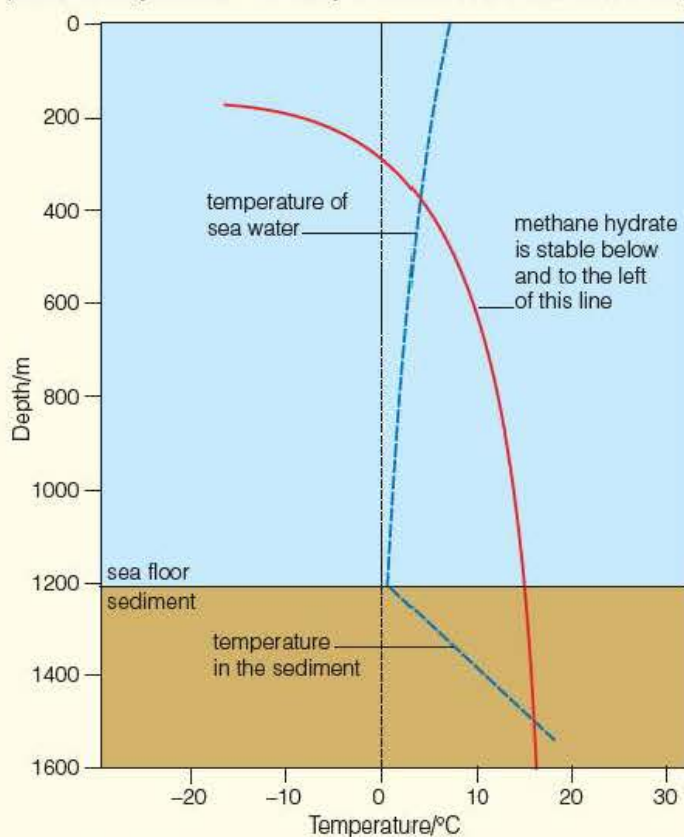

Figure 14.13 ▲
- c) Use le Chatelier's principle and your answers to parts a) and b) to account for the general shape of the red line in Figure 14.13.
- 3 Estimate, from Figure 14.13, the depths of ocean sediment in which methane hydrate might be found. Explain your answer.